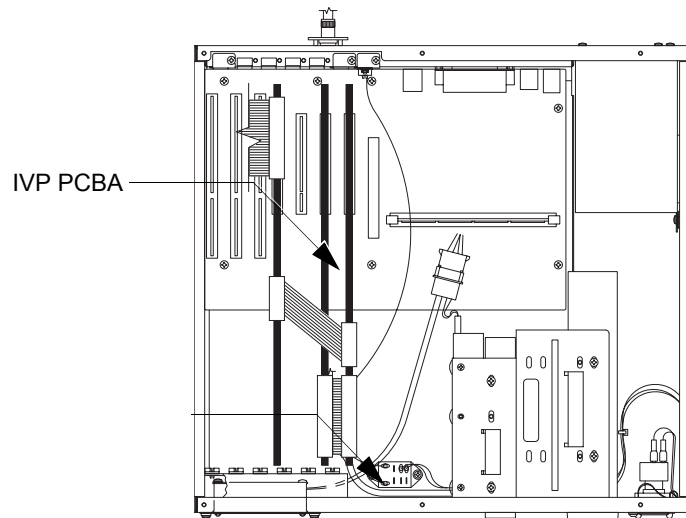

Figure 9-25 Location of the IVP PCBA
4. Note the orientation of all cables prior to their removal; see Figure 9-25.